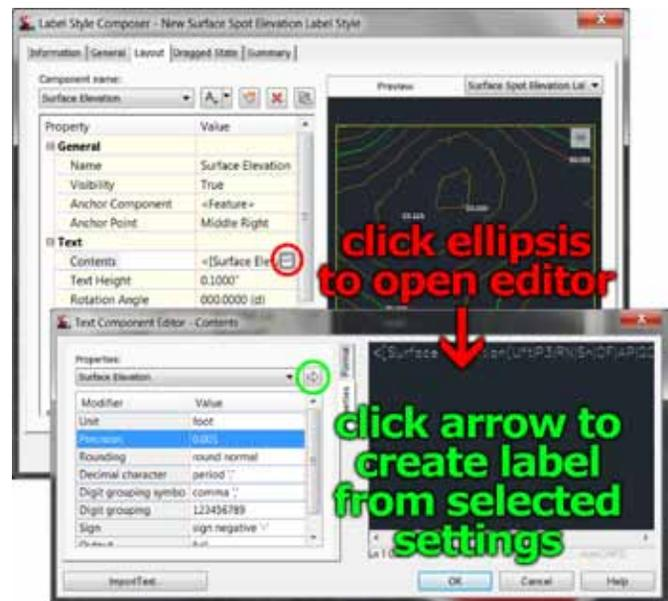

Figure 9 – The Text Component Editor is where we define the properties of a Civil 3D label.
This step will ensure the label is centered over each spot where a measurement is taken. **Step 6:** Click in the Text Contents field and click the ellipsis button to open the Text Component Editor (see Figure 9).
Step 7: In the properties area on the left, click in the Precision field and select 1. This will eliminate the decimals and round all labels to the nearest foot. **Step 8:** Click the arrow (circled in green in Figure 9) to create a new "label code" from the revised settings. When finished, click OK to close both dialog boxes.